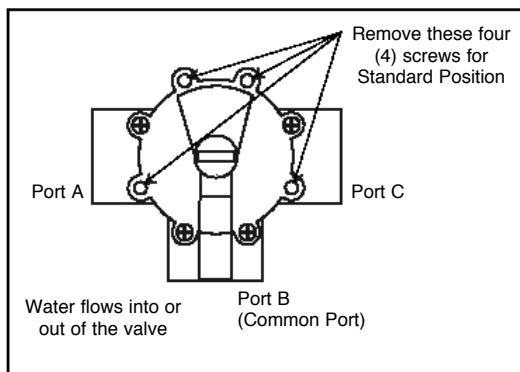
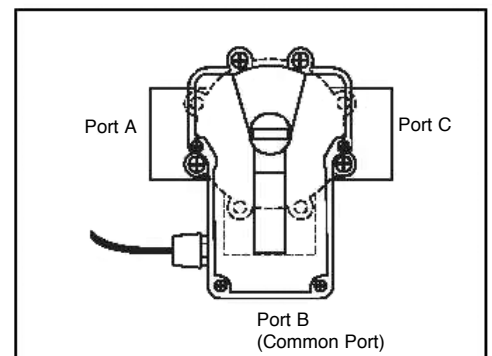
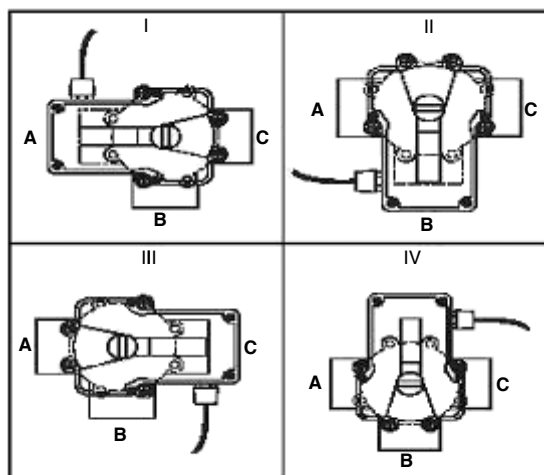

Figure 1. Standard Plumbing.
Figure 2. Standard Mounting.
Figure 3. Mounting Positions.
1. **Standard Plumbing** of a three-port valve is the port B (middle) being the incoming (common) port and A and C ports are the outlet ports (See figure 1).
2. **Standard Actuator Mounting** position is when the main body of the Actuator is over port B (See figure 2).
**NOTE:** If the valve is plumbed as in Figure 1 and the Actuator is mounted as in Figure 2 below, the factory setting of Actuator cams need no adjustment.
3. The Actuator can be mounted on top of a valve in four different positions (See figure 3). Depending on the plumbing of the valve and mounting position of the Actuator, the cams inside the Actuator have to be reset.
2. Depending on mounting position selected, (See figure 3), remove (4) Philip head screws from valve body. (See figure 1).
1. Find the mounting position of the Actuator in Figure 3, Page 2.